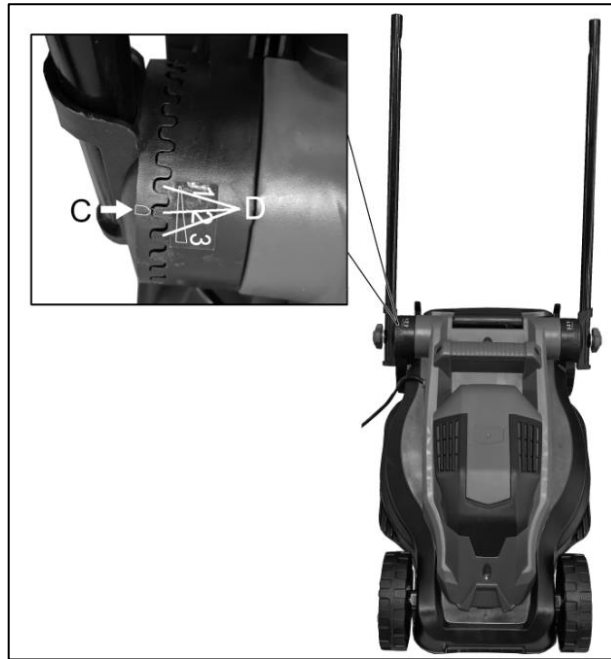

Fig. 5
Ensure that the mark (C) on the handle plate is aligned with any one of the three locations (D) on the machine body (Fig.5).